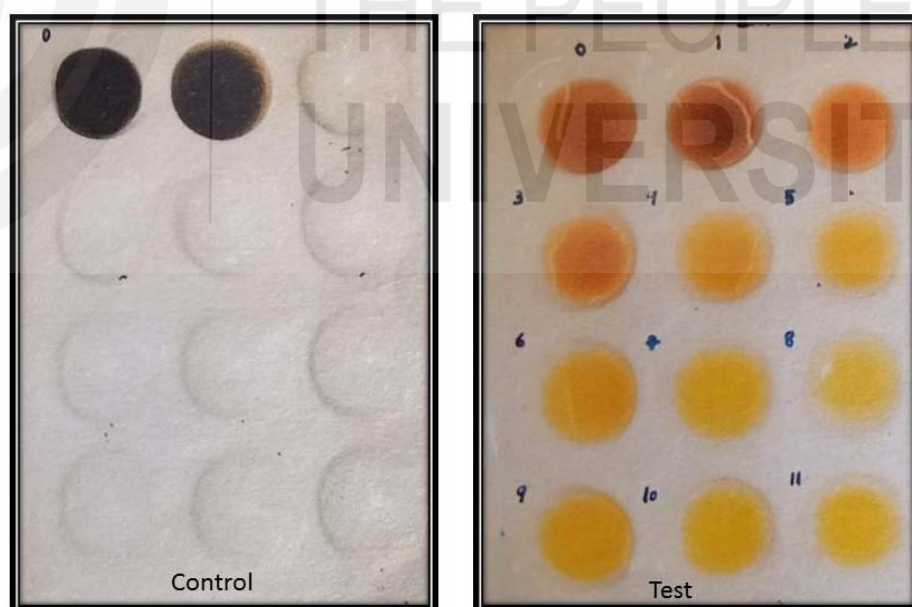

Fig. 11.3: Tile grooves showing salivary amylase test.
The presence of starch in a solution can be detected by using Iodine solution as an indicator. Iodine is deep blue/black in colour in the presence of starch. As starch is broken down to dextrin, the iodine turns to a brown/red colour followed by a pale brown/yellow colour when the enzyme has completed the hydrolysis (Fig.11.3).
- iv) **Finding Achromic Point:** Take two clean tile grooves and label them as Control and Test. Mark the tile columns in minutes ranging from 0-12 (Fig. 11.3). Add few drops of dilute iodine solution in each groove in almost identical quantity. Now add two drops from each Control and Test tubes to the first groove of tile containing iodine solution. At the end of every minute, repeat this step for 12 times i.e., for a span of 12 minutes. Record the time when no change in colour (achromic point) of iodine solution is observed (Fig. 11.3).